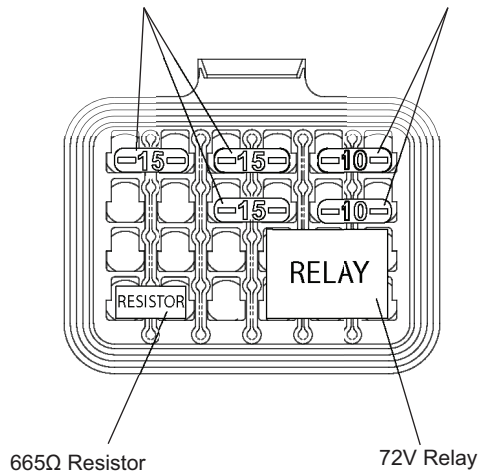

Fig. 6 Fuse Block
4. Check the fuse (Ref Fig. 6).